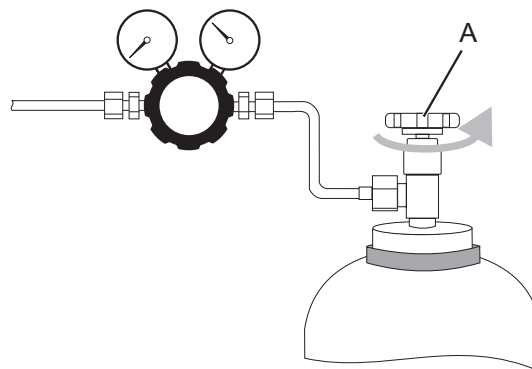

Figure 27: Opening gas cylinder valve
3. Open the valve on the premix gas cylinder (see Figure 27, A) by turning counter-clockwise.